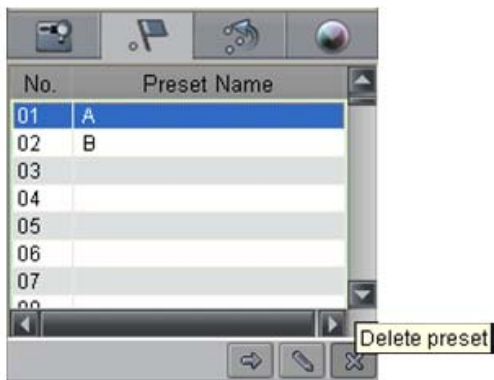

Figure 4.2.19 Delete Preset
**Delete Preset:** Select a predefined preset from the list and click the *Delete preset* button to delete a preset. Refer to Figure 4.2.19. The system will pop up a message as shown in Figure 4.2. 20. Click *OK* to delete the preset.